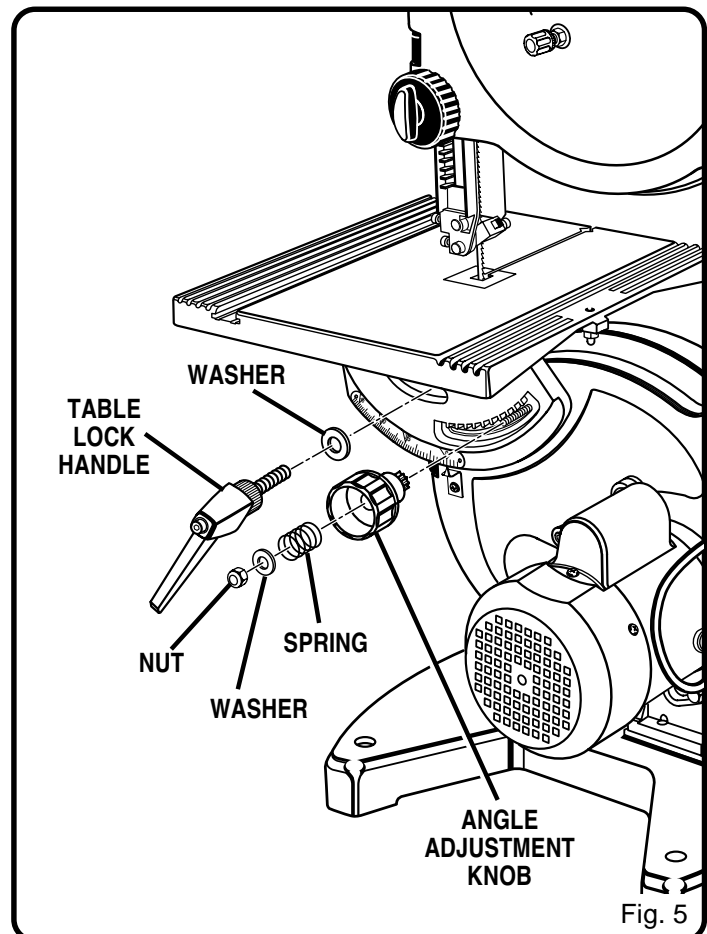

Fig. 5
- Remove the angle adjustment knob from the side of the saw housing. See Figure 5.